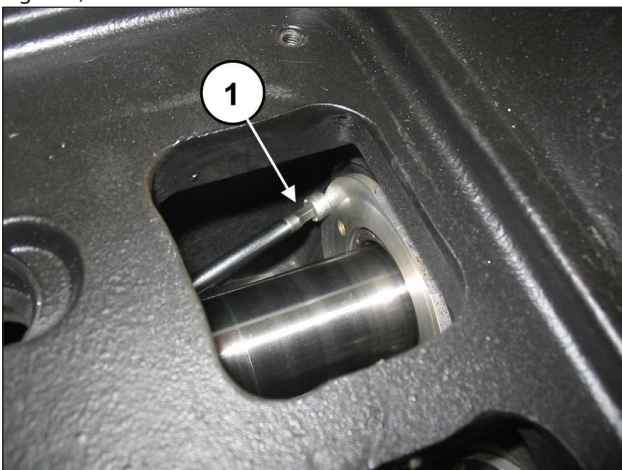

Fig. 127
Unscrew the two screws locking the oil seal cover (pos. ①, Fig. 127).